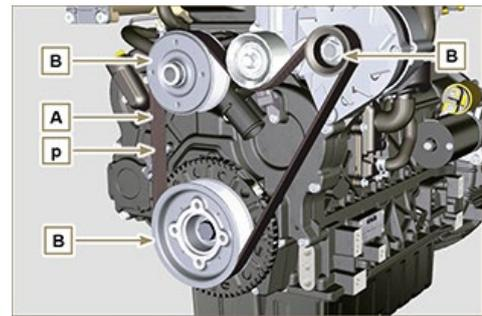
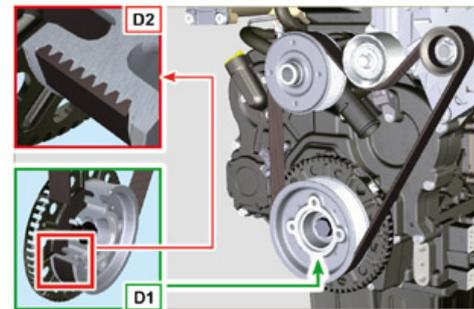

Fig 5.14
Fig 5.15
**NOTE** : Make sure that the ribs of the belt **A** are inserted correctly into the grooves of the pulleys **B** (as shown in Fig. 5.14 and Fig. 5.15 ).